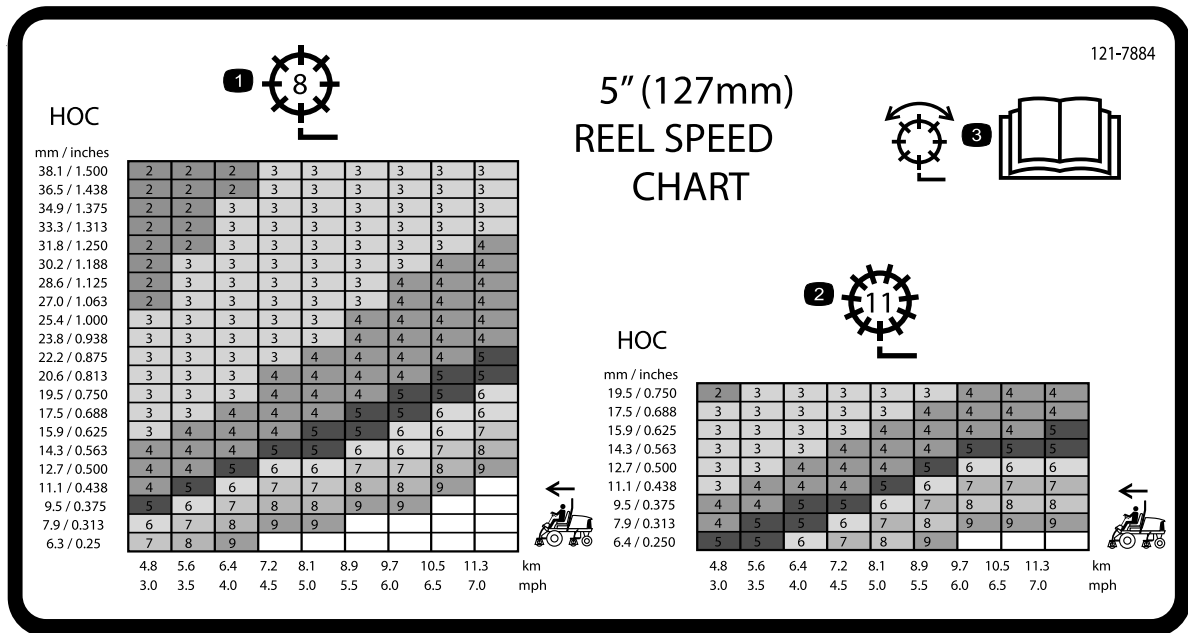

Figure 32
3. Use the graph on the reel speed chart decal (Figure 32), to determine the proper reel speed setting.